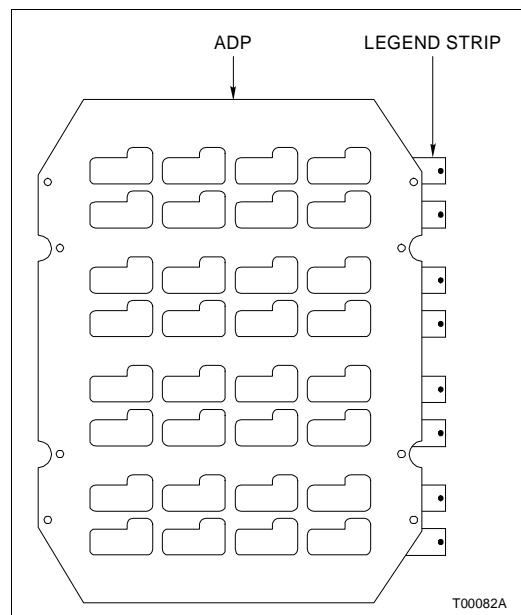

Figure PR70-3. ADP Legend Strips
- 8. Pull on the legend strip tab to remove it (Fig PR70-3).